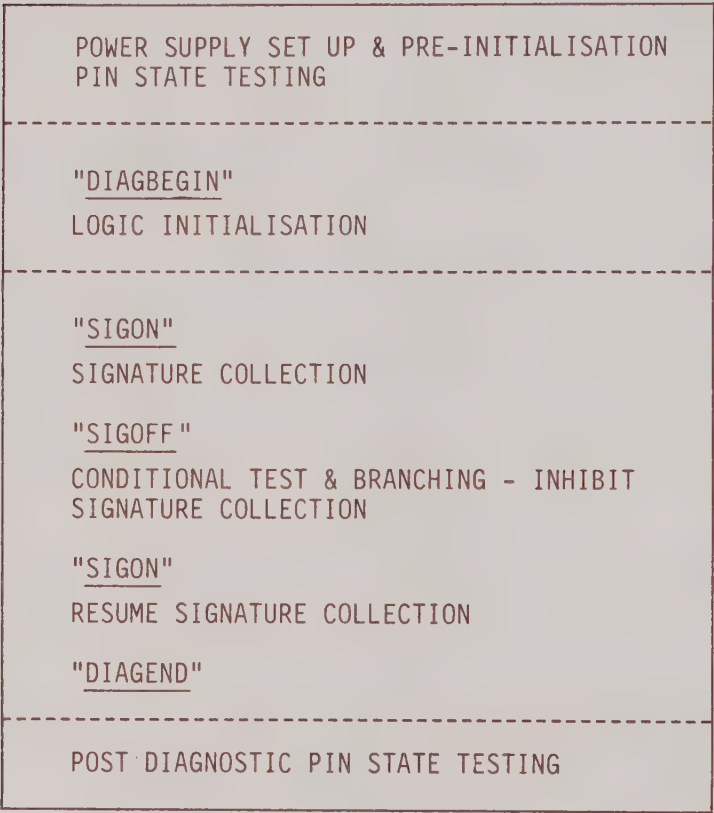

FIGURE 1 - TEST PROGRAM STRUCTURE
Test program generation is structured into the following three consecutive stages (Also see Figure 1):
- iii Signature collection (see Figure 1)
During this stage it is possible to turn off signature collection by using the "SIGOFF" and "SIGON" statements in pairs as shown in Figure 1. These statements are necessary when conditional branching is used to set a device into a known state before continuation of the main test program flow.